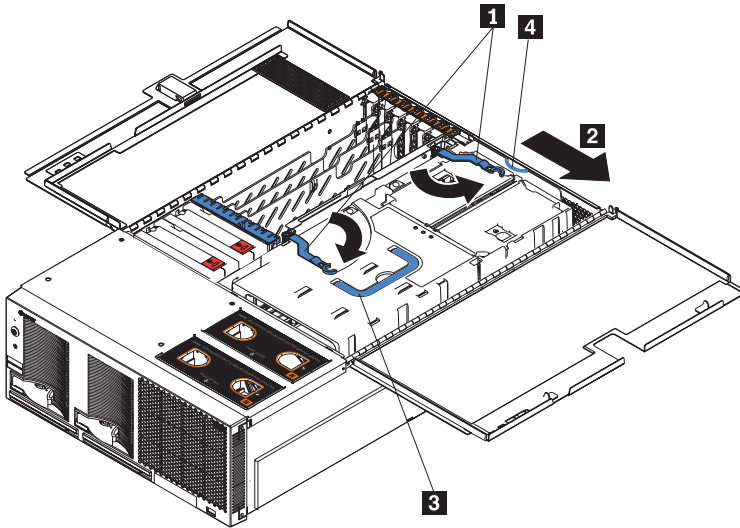

Figure 9. Rotate the locking levers to remove the SMP Expansion Module
5. Working from the right side of the server, rotate the two locking levers (**1**) toward you until they are fully extended, as shown in Figure 9.